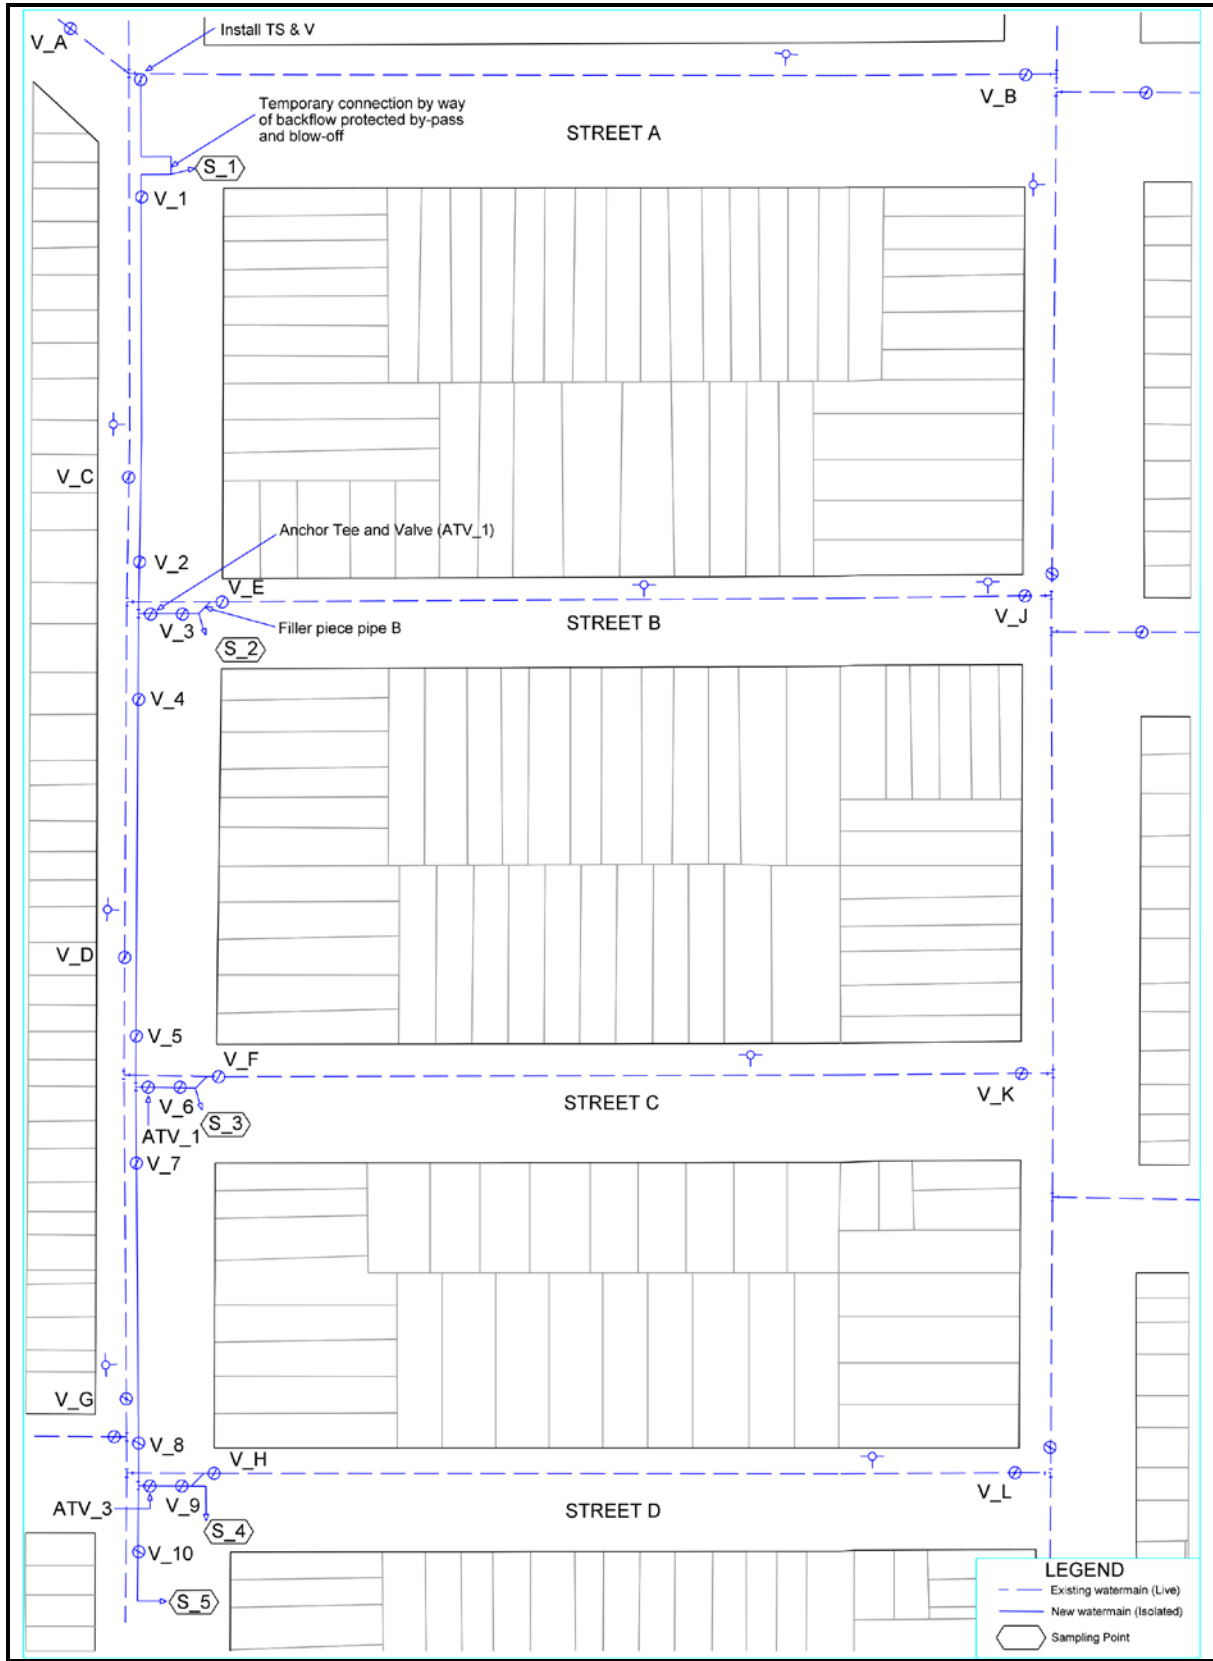
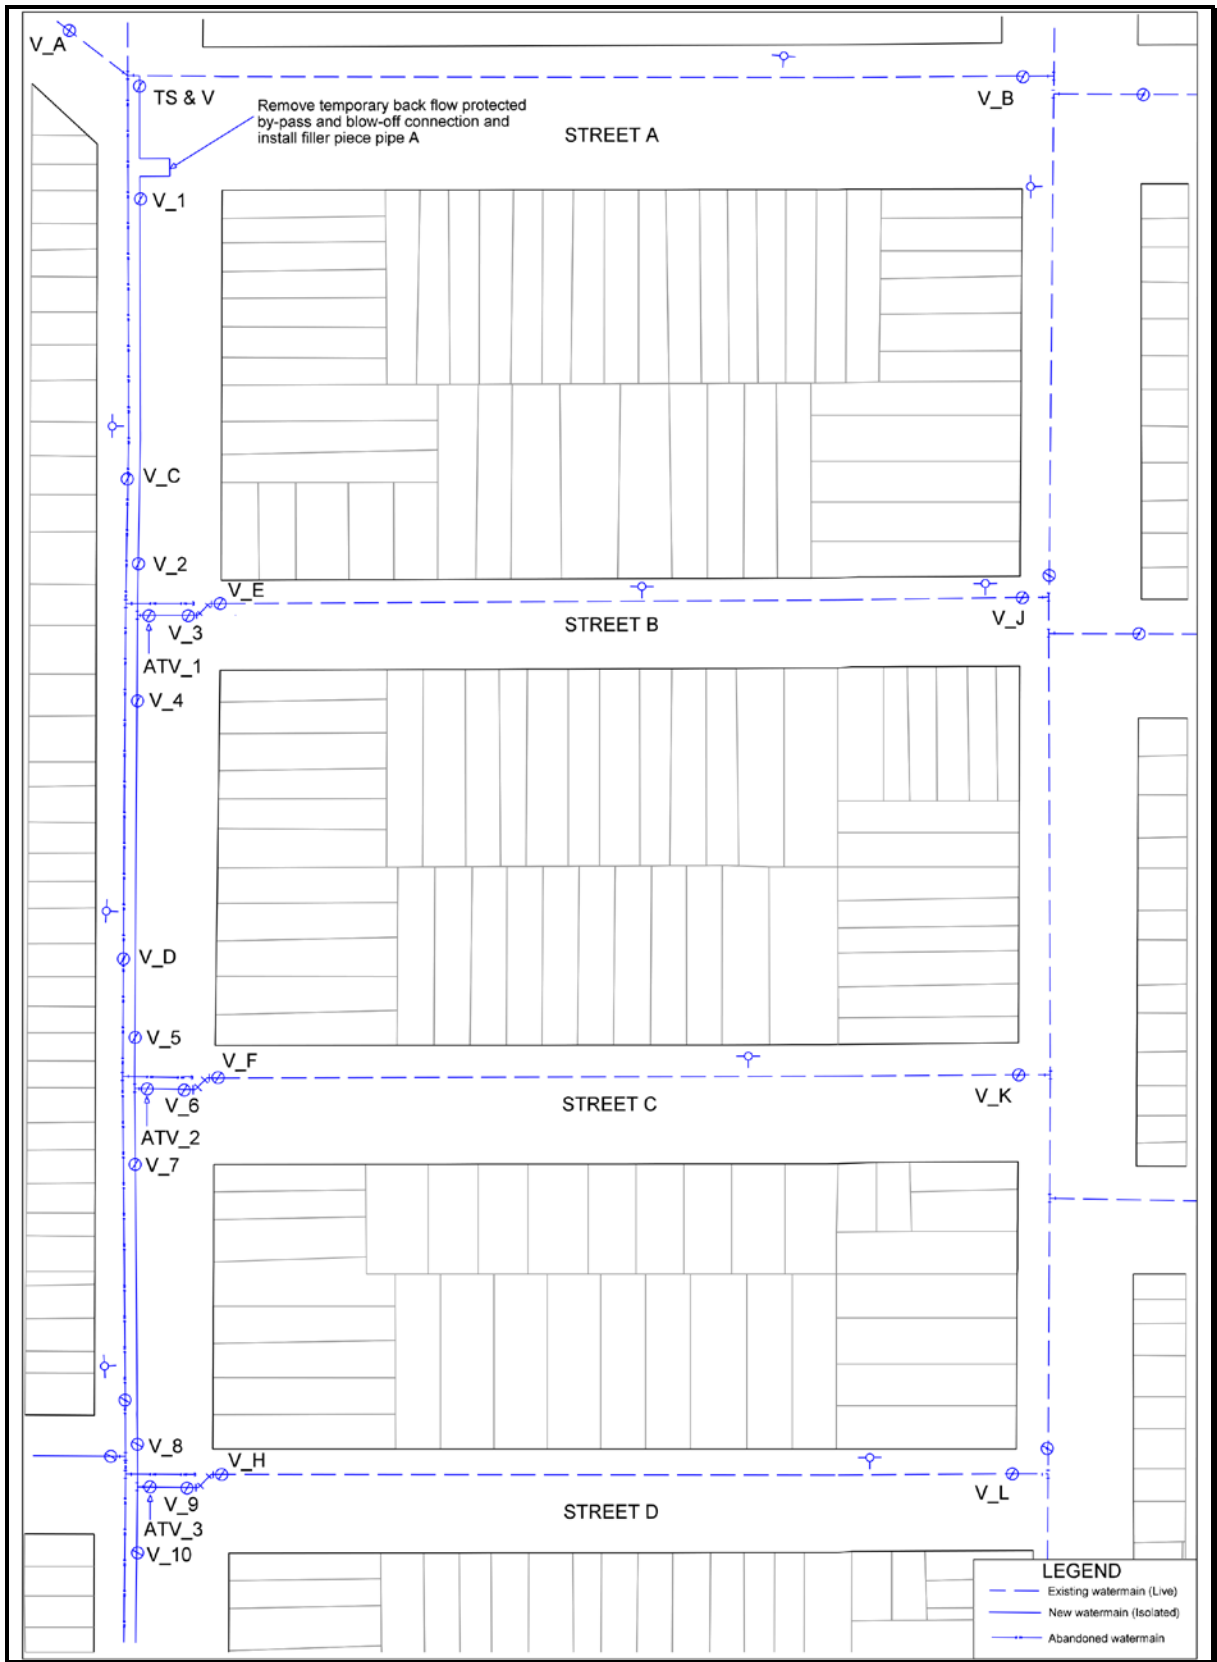

Figure 1: Scenario one – connecting to branch connections
Figure 2: Scenario two – connecting to source feeder watermain
The work involves the procedure for making watermain replacement and connection to an existing watermain system. All work shall be done to the satisfaction of the Contract Administrator. Instructions for making a connection are based on the scenarios in Figure 1 and Figure 2.
- 4** Take two consecutive samples at sampling stations S1, S2, S3, S4 and S5 as shown on Figure 1 and according to TS 7.30 *Procedure for Disinfecting Watermains*.
The following is a typical procedure for the connection of a replacement watermain to an existing watermain on street B as shown in Figure 1.
- 3** Contractor to cut into watermain pipe before valve V\_E, that is to say the left side of valve V\_E on Figure 1 and install mechanical cap on existing water main. Contractor to pump out water and ensure all discharge water in excavation is below open ends of existing pipes.
Procedure for connecting new watermain system to existing watermain system. For this example the connection will be for a permanent connection on street A as shown on Figure 2.